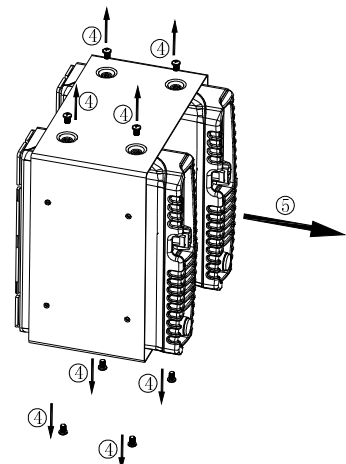

Figure 7
4. Remove the eight screws (M4.0X6.0) □ that secure both radios using a screwdriver, and then remove both radios □, shown as Figure 7.